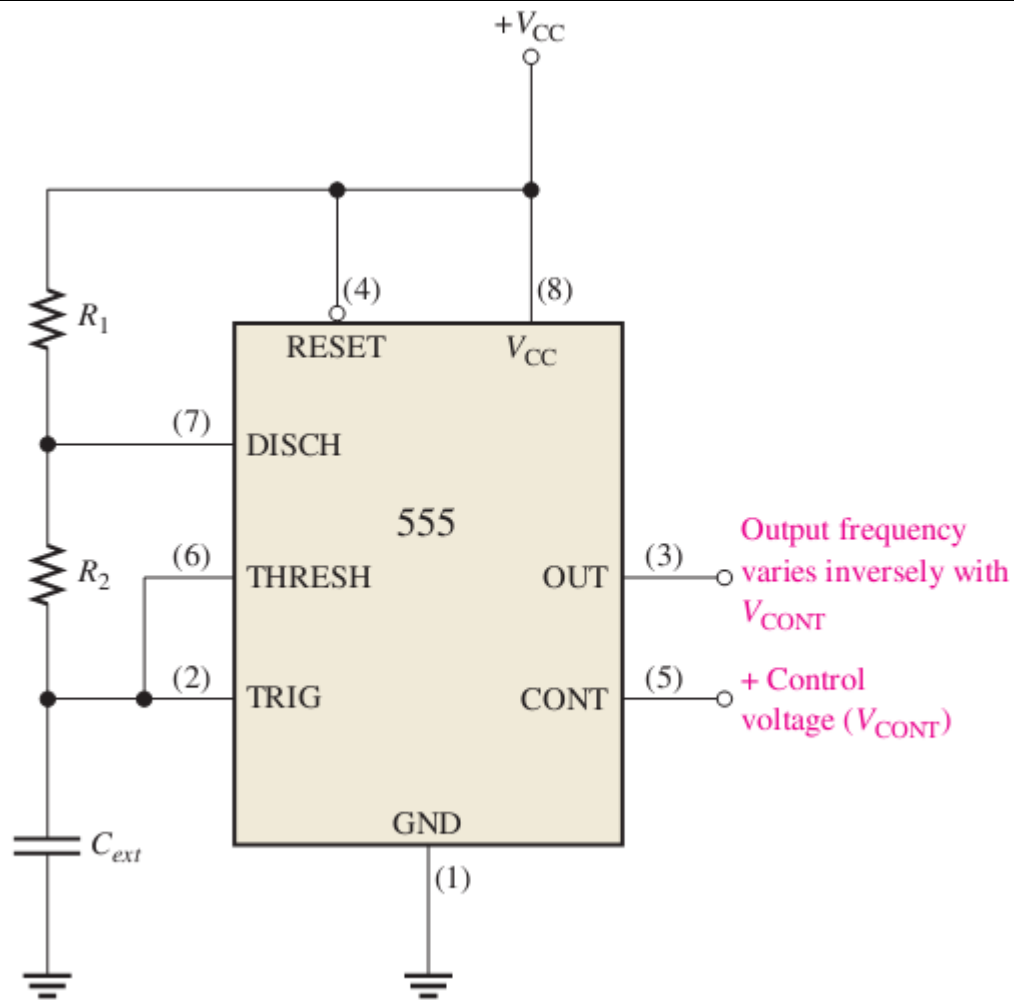

Figure 32 The 555 timer connected as a voltage-controlled oscillator (VCO). Note the variable control voltage input on pin 5.
- A 555 timer can be set up to operate as a VCO by using the same external connections as for astable operation, with the exception that a variable control voltage is applied to the CONT input (pin 5), as indicated in Figure 32.